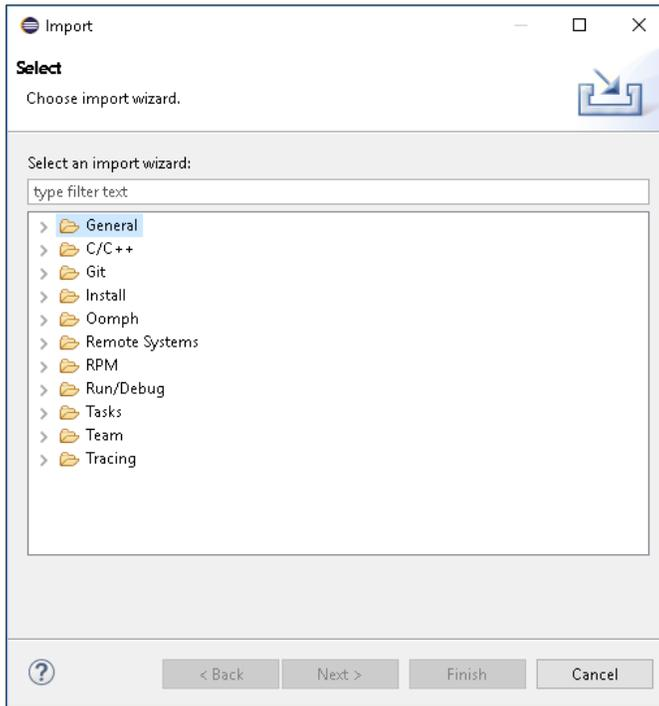

Figure 17. Import dialog box.
8. Select **File > Import** from the menu bar. The **Import** dialog box appears, as shown in **Figure 17**.